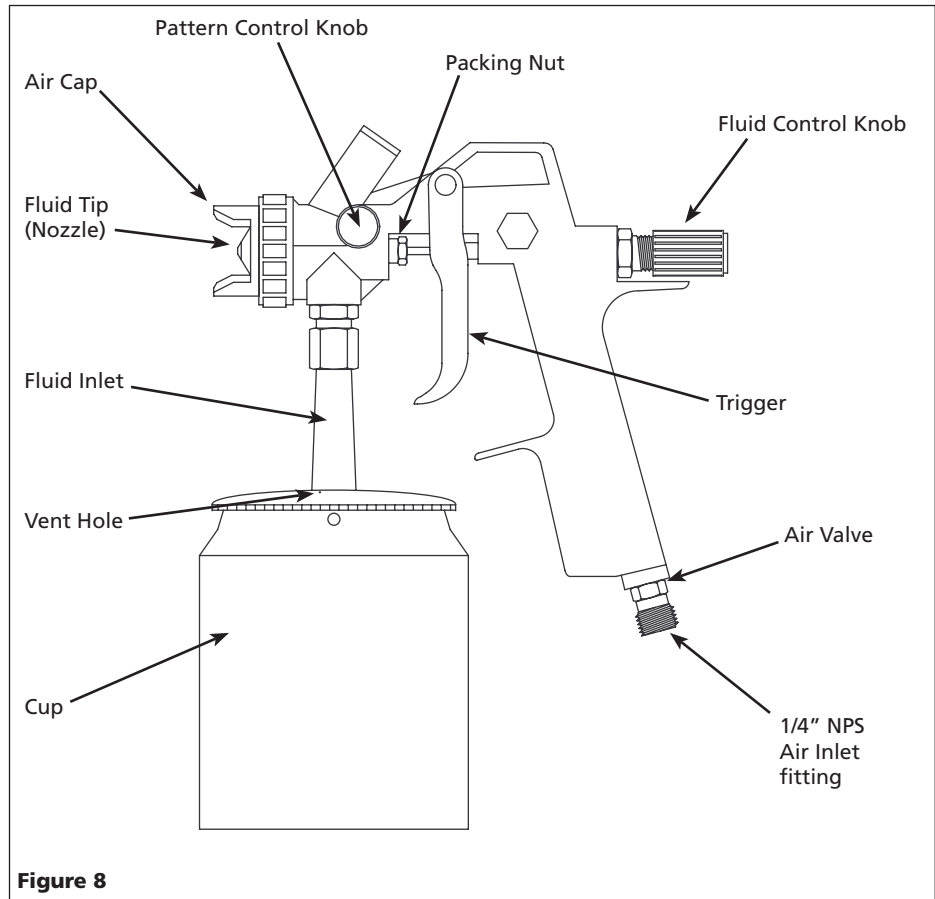

Figure 8
5. Unscrew packing nuts and replace the packing **ONLY** if a leak will not stop when the nut is tightened (See Figure 8). Do not over-tighten a packing nut because this will restrict movement of the needle.